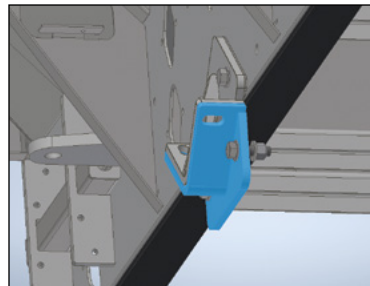

Figure 6 Drill Guide to Complete Closed Frame Mount
5. The truck bracket is used as a drill guide to complete the mounting holes in the bed bracket (Figure 6).